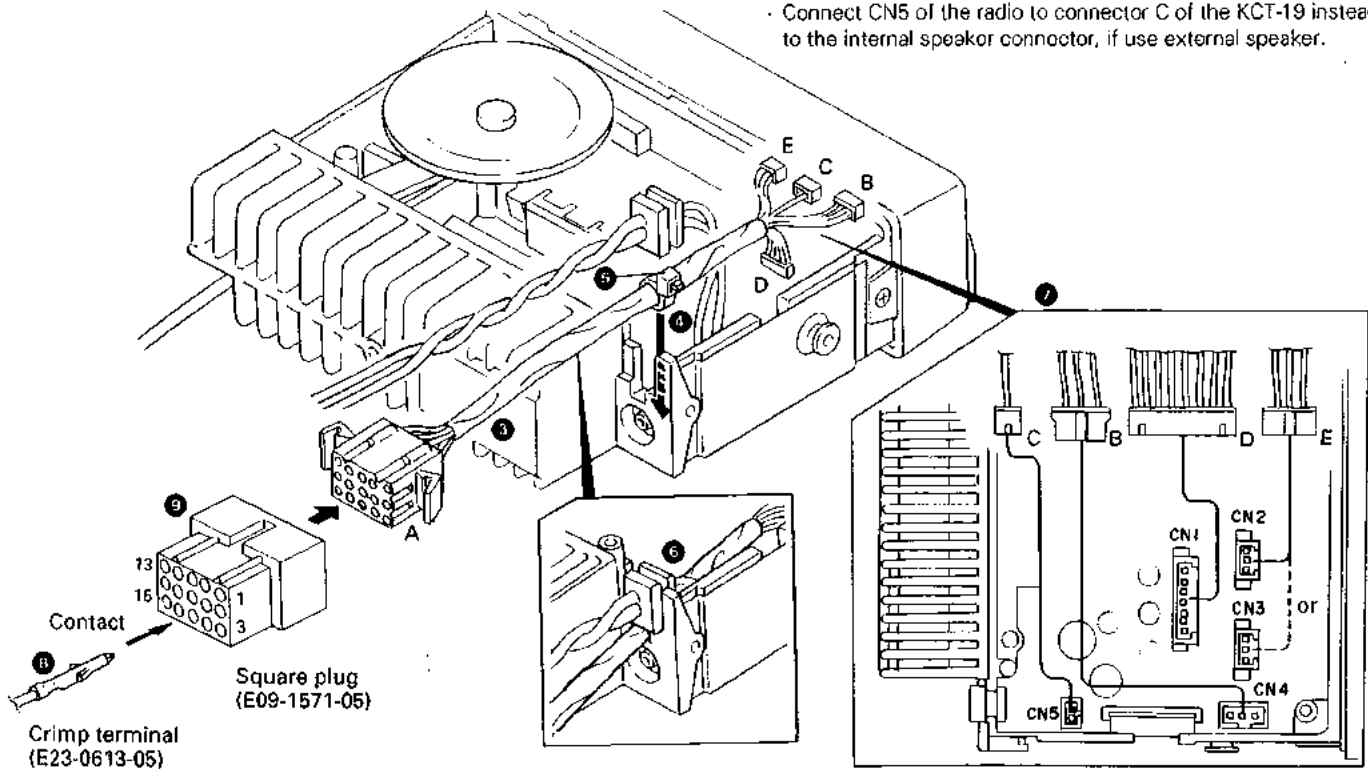

Fig. 7
3. Insert the KCT-19 cable (③) into the chassis (④). The wire harness band (⑤) must be inside the chassis.
4. Relocate the DC cord bushing in the chassis (⑥).
5. Connect the KCT-19 to the TX-RX unit (A/2) as shown in Figure 7 (⑦).
6. Connect the KCT-19 to the external accessory by inserting the crimp terminal (⑧) into the square plug (⑨), both of which are supplied with the KCT-19.